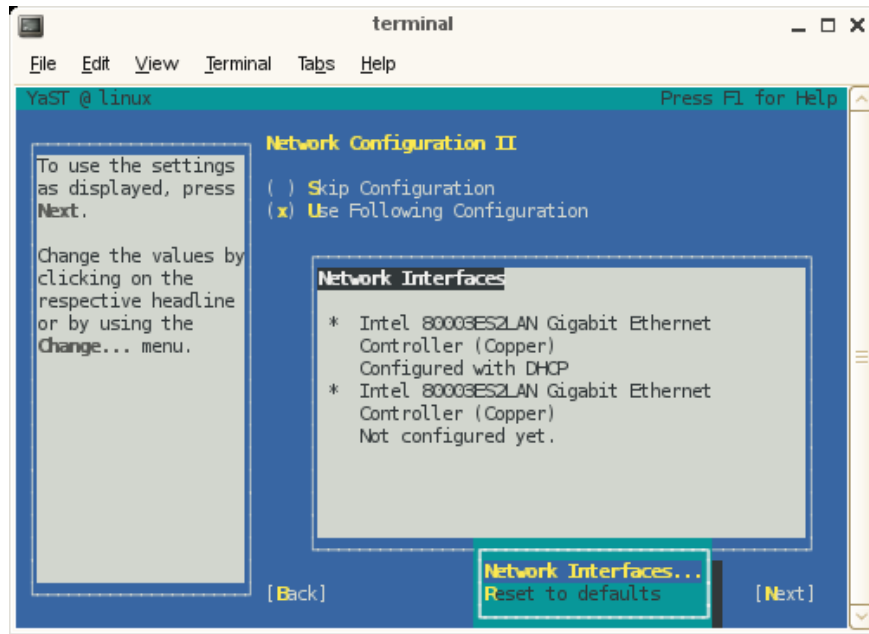

Figure 2-4 Network Card Configuration Interfaces Screen
8. From the **Network Card Configuration Interfaces** screen, shows the suggested configuration as shown in Figure 2-4 on page 38. Click **Next** to continue.